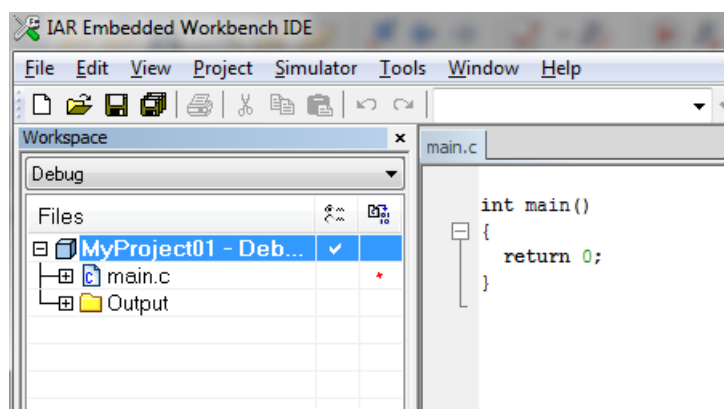

Figure 1-40. New project
4. Navigate to the folder where you want to create the project, for example, C:\IARProjects\MyProject01. Type the name of the project, for example, MyProject01. Click Save, and a new project is created. The new project is now visible in the left-hand part of IAR Embedded Workbench. See Figure 1-40.